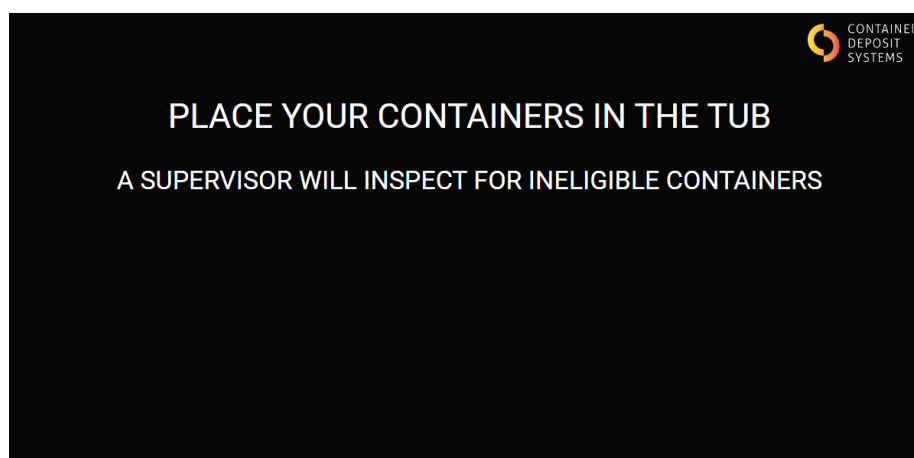

Figure 12. Locked Screen
- Ensure the ART is in the home screen as displayed on Figure 12. Locked Screen